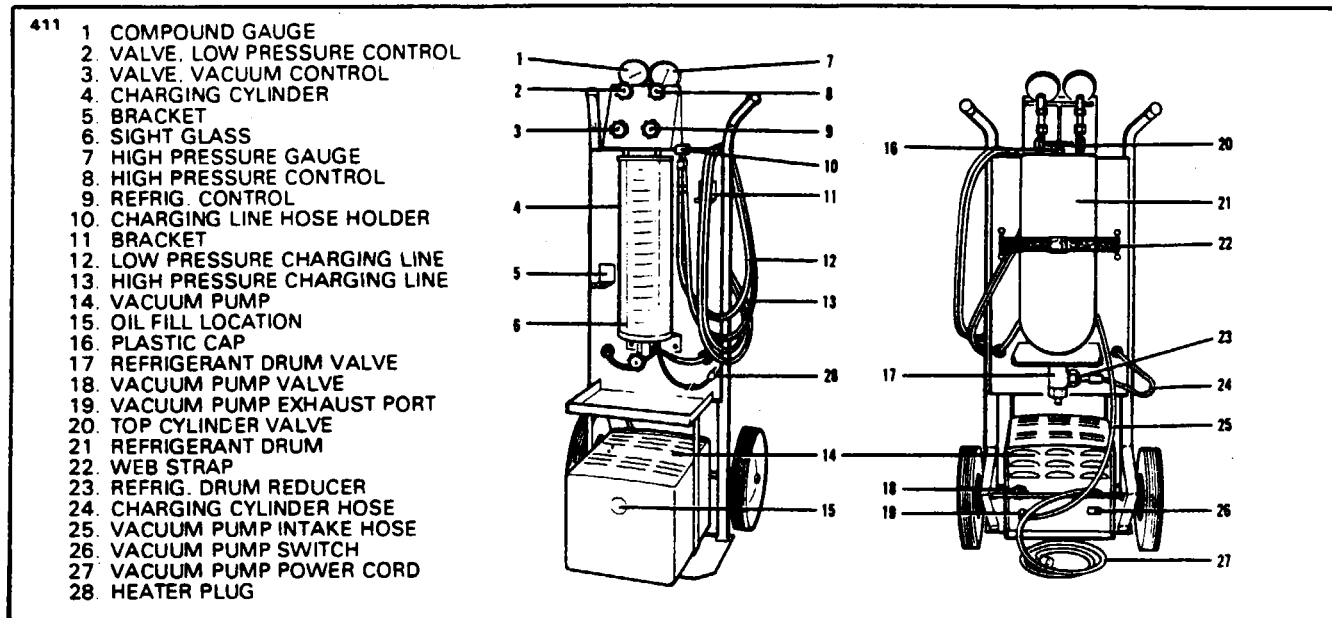

Figure 14-32. Charging Stand
Applies to Kent Moor J8393-02 or similar charging station. Use Refrigerant 12. (See Figure 14-32.)
3. Remove exhaust port cap and open valve on pump. Turn on pump and open the low and high pressure and vacuum control valves on the charging station. (See Figure 14-32.)